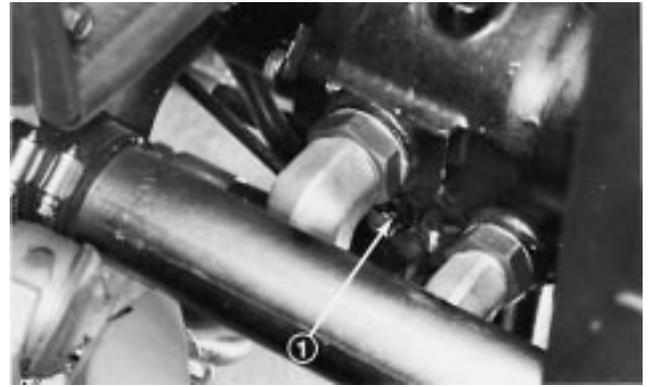

Figure 30
1. Bypass valve is located in left side of variable displacement pump (Fig. 30). Rotate the valve 1/2 to 1 turn counterclockwise to open and allow oil to by-pass internally. Because fluid is bypassed, the machine can be **slowly** moved without damaging the transmission.